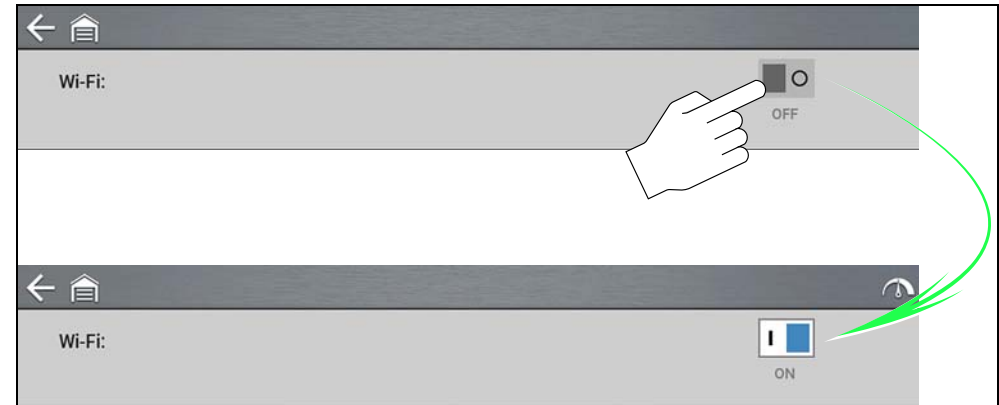

Figure 14-1
1. To turn Wi-Fi on/off, select the **Wi-Fi power icon** (Figure 14-1).